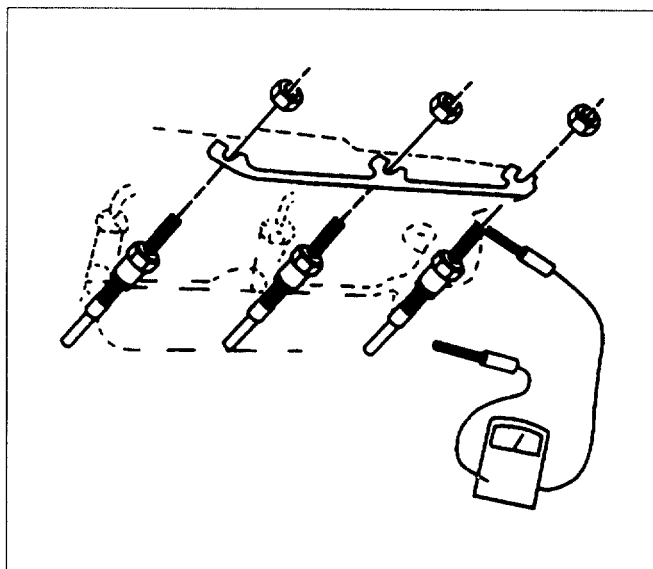

Figure 3 – Continuity Test
2. A continuity check can also be made with an ohmmeter between the glow plug lead and ground, with the buss bars removed (Figure 3). If no continuity exists, the glow plug will not heat and should be replaced.